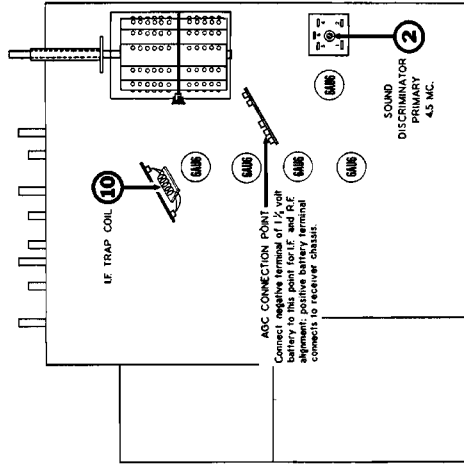

FIG. 12
3. Connect a 1 1/2 volt battery to the receiver AGC system so that negative terminal of battery connects to the AGC line and positive terminal of battery connects to receiver chassis. See Fig. 12 for convenient point of connection.
4. Note location of IF Trap Coil #10 by referring to Fig. 12. Before undertaking the alignment of any of the IF stages, Trap Coil #10 must be adjusted so that it does not resonate in the IF pass-band. That is, the IF pass-band must be wide enough to pass the signal that they are closely spaced. Failure to detune the Trap Coil can cause the IF system to become regenerative thereby preventing alignment.